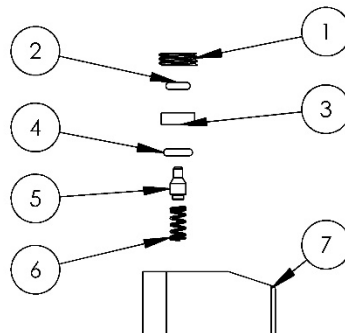

Figure 2: Double Seal Assembly
- Remove the double seal cap (Figure 2, #1) using a thick blade screwdriver.
- Use a small pick or screwdriver to remove the 005 O-ring (Figure 2, #2) and double seal spacer (Figure 2, #3). Inspect the O-ring and replace if any damage/wear is present.
- Use a small pick or screwdriver to remove the 007 O-ring (Figure 2, #4). Inspect the O-ring and replace if any damage/wear is present.
- Invert the magazine and allow the double seal valve (Figure 2, #5) and compression spring (Figure 2, #6) to drop free. Inspect the spring and replace if any damage/wear is present.